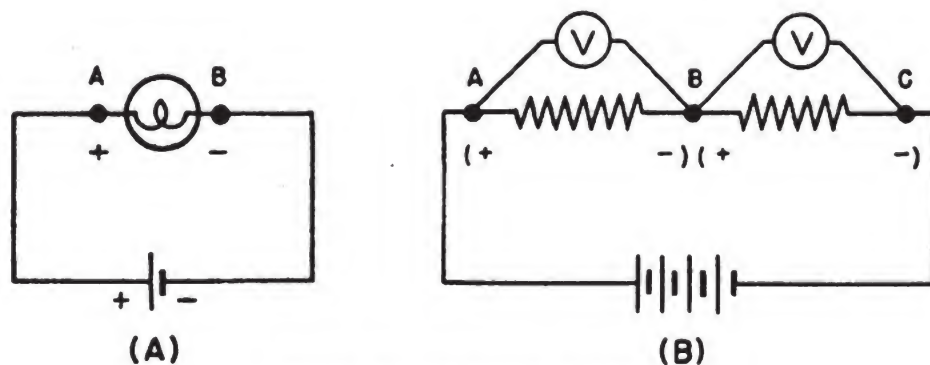

Figure 30.—Electrical polarity.
circuit to force along a current between these points. Thus, in (A) of figure 30, point A must be positive with respect to point B for current to be forced from A to B. In (B) of figure 30, when current flows from point A to point B, it only